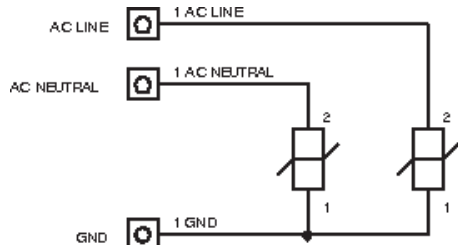

Figure 4 Line-Voltage Suppressor with 2 MOVs
Figure 4 shows the circuit for this simple type of line-voltage surge suppressor. It uses two MOVs to shunt surges into the safety ground wire from both the AC Hot and AC Neutral lines. This is the type often found in Type-170 cabinets, where the Caltrans specification requires a separate AC Neutral and Earth Ground. NEMA TS-1 cabinets can get by with just a single two-terminal MOV from Line to Neutral (or Ground).
At the protected equipment, the surge is clamped to a voltage level slightly above the normal peak of the line (about 169V for a 120VAC line), and after the surge has ended, the small amount of stored energy that coupled through the big series inductor is gradually released back into the load. Because of the series inductor and its associated resistance and reactance at line frequency, a series-mode protector will have a continuous service current rating, such as 15A. This is the easiest way to tell if your “black box” contains series elements. For very large surges, some of the surge current will be shunted across the protected lines, but not all of the current is shunted as a shunt-mode device would do. This means there is very little neutral-line contamination in a series-mode device, a trait that makes them attractive for protecting power lines to interconnected equipment separated by some distance, such as computers and network printers in an office environment. Figure 4 below shows the configuration of a typical hybrid surge suppressor.
*Figure 4 Typical hybrid suppressor with MOVs and choke inductor. There is an almost endless variety of suppressor circuit topologies, so adequate testing of a suppressor requires knowledge of the circuit.*